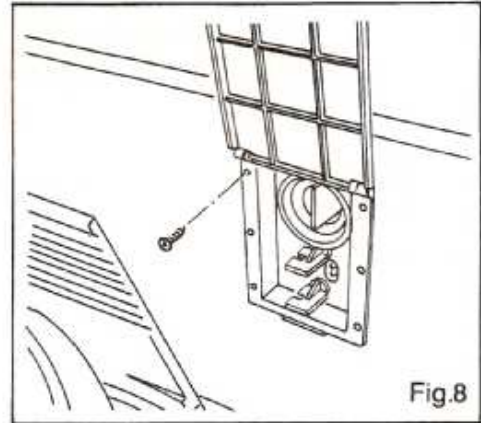

Fig.8
- 6.2 Apply the silicone sealant to the back flange of the Crystal Filter and using the six countersunk head screws secure the Crystal Filter into position (see fig 8). Finally remove any excess sealant from the coachwork.